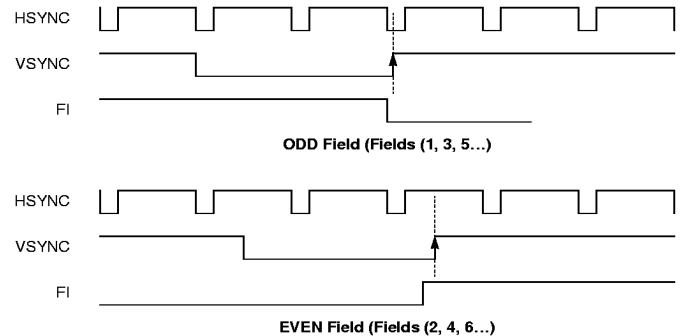

Figure 4. Field Detection Signal Relationships
The field detection can be accomplished in two ways depending on the *FIExt* parameter (see Figure 4):
- Internal detection (*FIExt* = 0), derived from latching the state of HSYNC at each VSYNC. This is useful when using the ZR36060 with video sources that do not provide a dedicated field indication signal. Odd fields are those where the VSYNC edge latches the HSYNC during its short sync period, while on even fields the VSYNC edge latches the HSYNC in the middle of the line (see Figure 4). The VSYNC